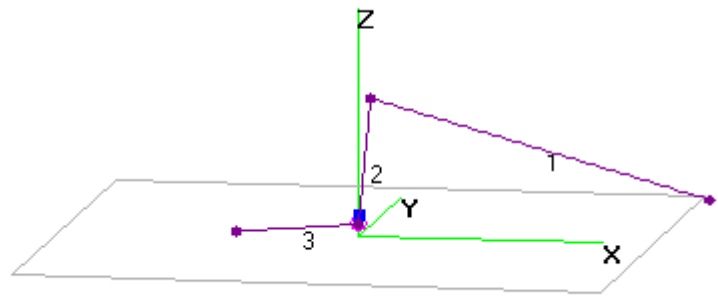

Figure 5: Top radiator wire support
- To reduce the antenna wire bend at the suspension point, I built a small “top radiator wire support” made of a banana socket plastic cover attached by a cord to a slightly curved 20mm PVC tube that reduces the bent angle and lets the wire slide easily (see Figure 5).